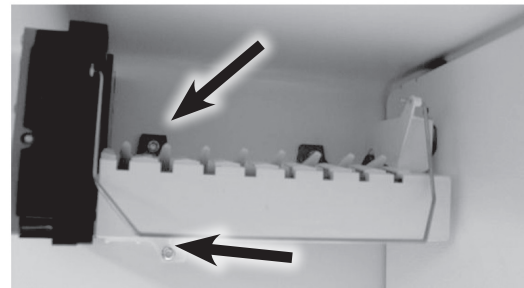

Figure 1
2. Loosen the 2 - 1/4" screws and remove the lower screw, see figure 1.